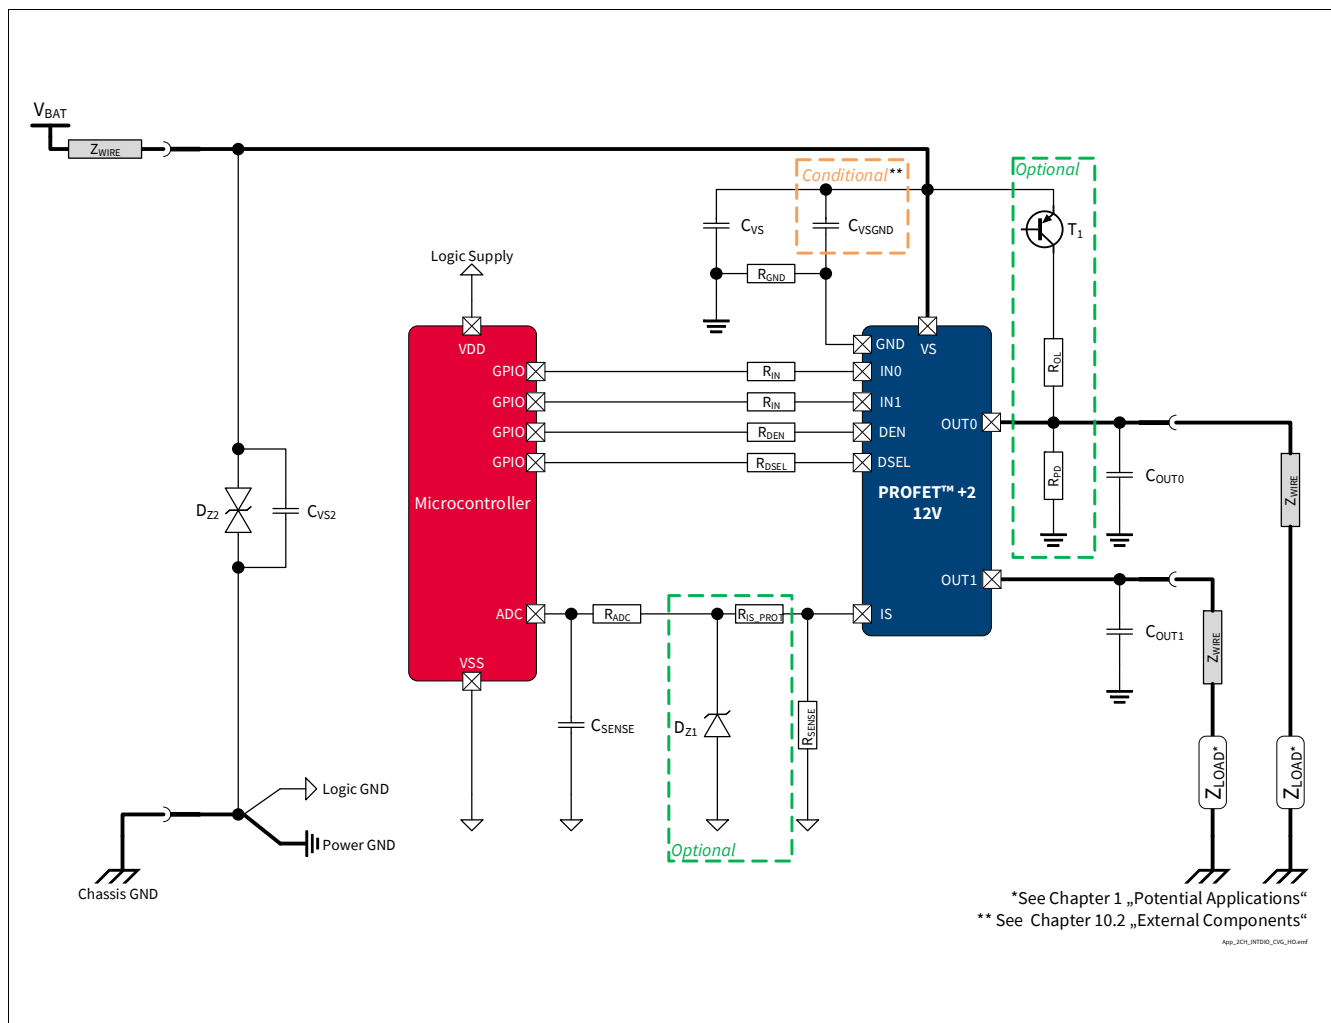

Figure 42 **BTS7120-2EPA Application Diagram**
1.03 , 2019-10-15	P_8.7.8.1, P_8.7.8.7, P_8.7.8.8 updated (added in Note or Test Condition: link to Figure 25) P_7.5.8.4, P_7.5.8.5 updated (added in Note or Test Condition: DEN = “low”; link to Figure 19) P_7.5.8.12 updated (added in Note or Test Condition: See Figure 21; deleted unnecessary space in Symbol: $dV_{OUT} / dt \rightarrow dV_{OUT} / dt$) P_8.7.8.6 updated (added in Note or Test Condition: see Figure 26) P_9.7.8.1 updated (added in Note or Test Condition: see Figure 33) P_9.7.8.5 updated (Min./Max.: -45%/+45% → -27.0%/+27.0%) P_9.7.8.6 updated (Min./Max.: -36%/+36% → -25.5%/+25.5%) P_9.7.8.8 updated (Min./Max.: -30%/+30% → -24.0%/+24.0%) P_9.7.8.12 updated (Min./Max.: -14%/+14% → -12.5%/+12.5%) P_9.7.8.13 updated (Min./Max.: -11%/+11% → -8.8%/+8.8%) P_9.7.8.15 updated (Min./Max.: -6%/+6% → -6.0%/+6.0%) P_9.7.8.17 updated (Min./Max.: -5%/+5% → -5.0%/+5.0%) P_7.5.8.11 updated (added in Note or Test Condition: See Figure 19) Figure 1, Figure 42 updated Chapter 1 updated (or LED equivalent → or equivalent electronic loads (e.g. LED modules)) P_4.3.0.7 added Table 24 updated Chapter 5.1 updated (added: see Chapter 10 for the complete application setup overview)